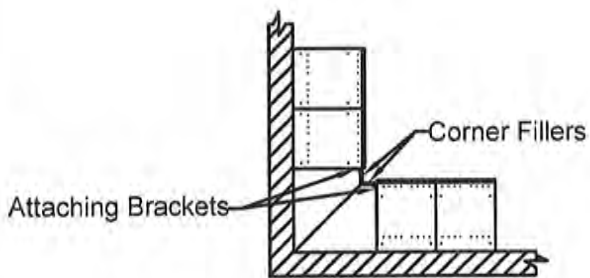

Figure 6.3 Corner Filler Attaching Brackets
- 6.9 Position the adjacent lockers at the corner so that the corner filler brackets align with the locker side panel. Level the lockers and attach the corner filler to the locker, see Figure 6.3. Repeat step 6.6 to anchor these lockers to the wall.